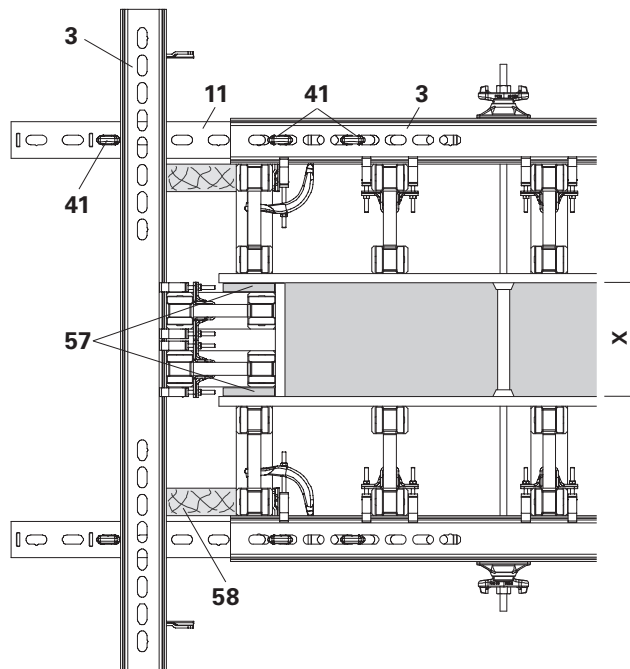

Fig. B9.01
1. Place prefabricated stopend element against limit plate (57).
2. Mount spacer timber (58) (provided by contractor).
3. Insert Coupling VKZ 99 (11) into the Steel Waler SRZ (3).
4. Fix Coupling VKZ 99 with Wedge KZ (41).
5. Hammer in KZ Wedges (41) tightly to fix stopend panel. Pulling wedge before pushing wedge. (Fig. B9.01)